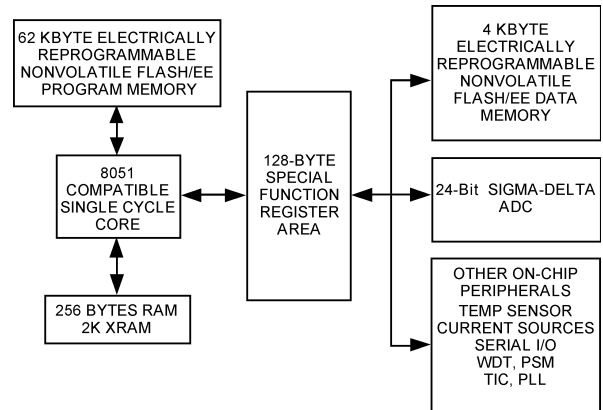

Figure 5. Programming Model
**(SFRs)** The SFR space is mapped into the upper 128 bytes of internal data memory space and accessed by direct addressing only. It provides an interface between the CPU and all on chip peripherals. A block diagram showing the programming model of the ADuC847 via the SFR area is shown in Figure 5. All registers except the Program Counter (PC) and the four general-purpose register banks, reside in the SFR area. The SFR registers include control, configuration, and data registers that provide an interface between the CPU and all on-chip peripherals.